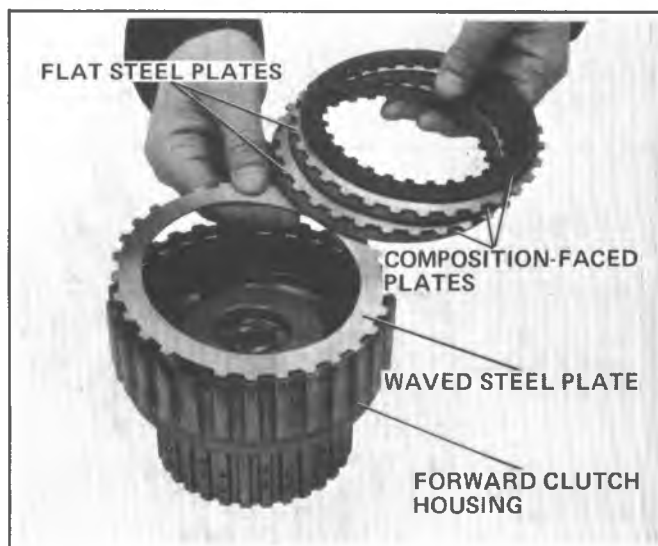

Figure 7A6-144 Installing Clutch Plates Into Forward Clutch Housing
7. Oil and install the forward clutch plates into the forward clutch housing, starting with the waved steel plate and alternating composition-faced and flat steel clutch plates (See Figure 7A6-144 and Clutch Plate Usage Chart, Figure 7A6-107).